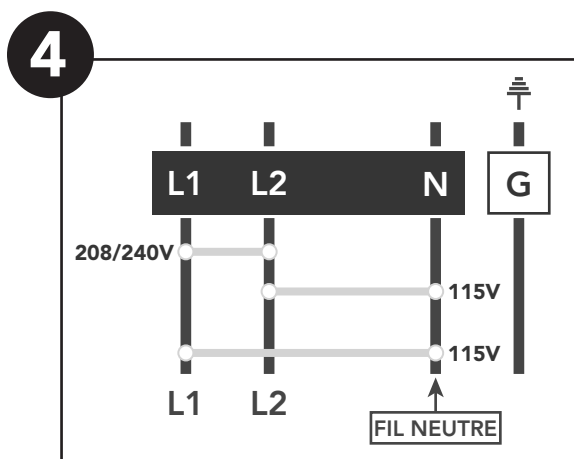

Fig. 8
**!** CONNECTEZ L'ALIMENTATION, COMME IL EST INDiqué DANS LA FIG. 8.